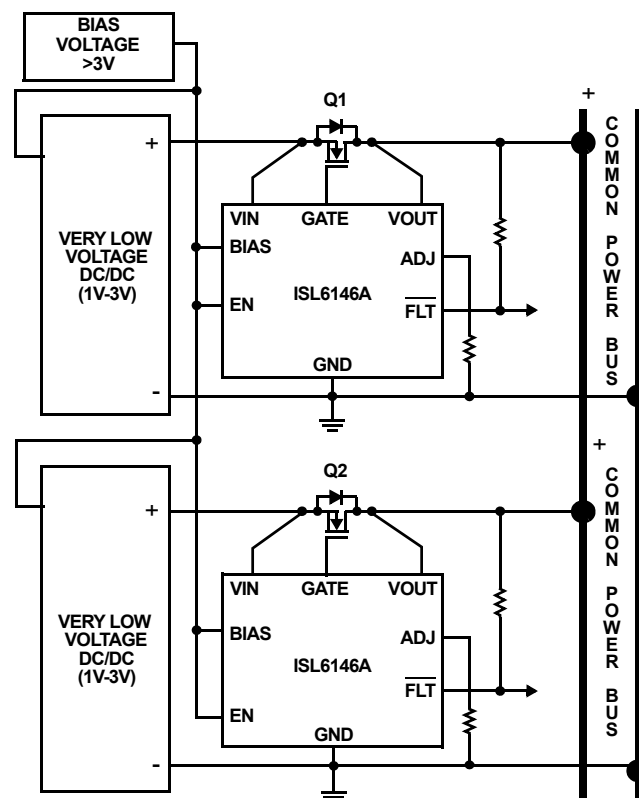

FIGURE 47. LOW VOLTAGE APPLICATION DIAGRAM
The ISL6146A application shown in Figure 47 is the configuration for OR-ing very low voltages of 1V to 3V. Additionally, this application shows the utilization of the ADJ input with a single resistor tied to GND. This provides the user a programmable level of  $V_{OUT} > V_{IN}$  before the High Speed (HS) Comparator is activated and the GATE output is pulled down to allow for normal voltage fluctuations in the system.